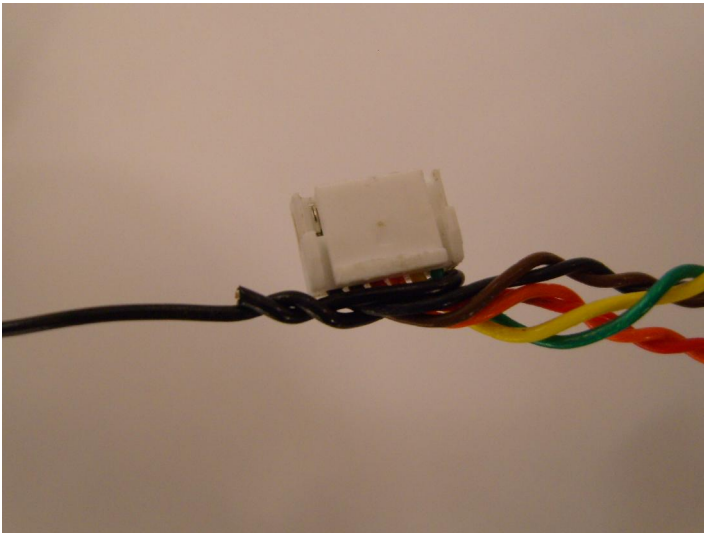

Fig. 6
7. Twist the pull wire together a couple strands (neatly). Then trim it flush so that no part of the wire is hanging out. (Fig. 6)